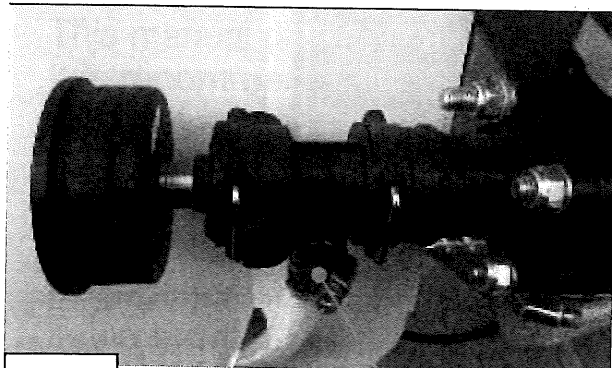

Fig.6
- 1- Check that the collectors "A" of each individual unit are connected as shown in fig.6